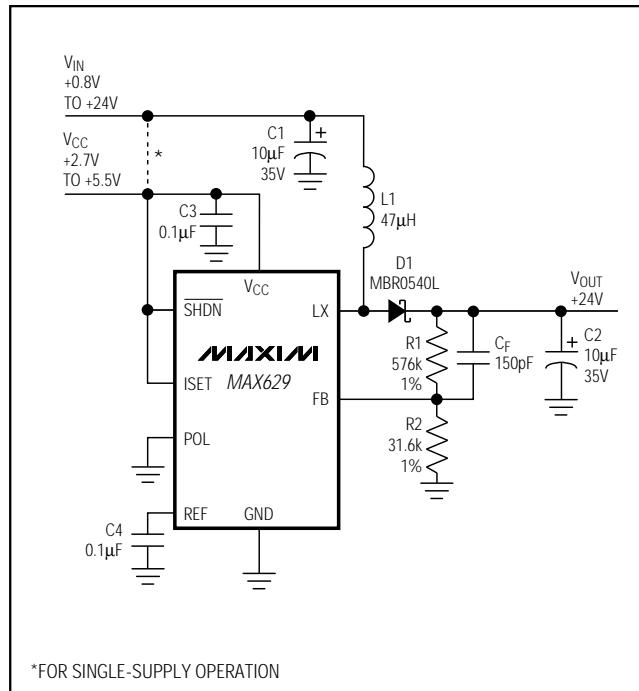
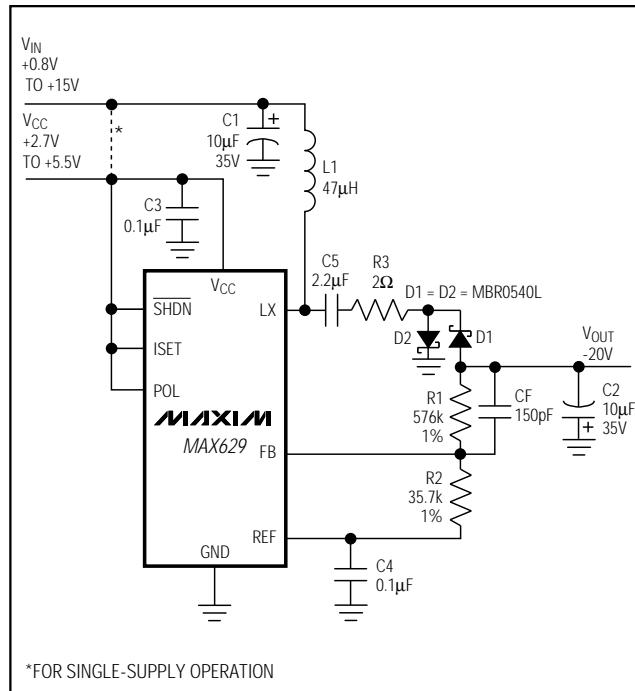

Figure 2. +24V for a Positive LCD Bias
Figure 3. -20V for a Negative LCD Bias
The output voltage behavior in shutdown mode depends on the output voltage polarity. In the positive output voltage configuration (Figure 2), the output is directly connected to the input through the diode (D1) and the inductor (L1). When the device is in shutdown mode, the output voltage falls to one diode drop below the input voltage, and any load connected to the output may still conduct current. In the negative output voltage configuration (Figure 3), there is no DC connection between the input and the output, and in shutdown mode the output is pulled to GND.
For either positive or negative output voltage applications, set the MAX629's output voltage using two external resistors, R1 and R2, as shown in Figures 2 and 3. Since the input bias current at FB has a 50nA maximum value, large resistors can be used in the feedback loop
For positive output voltages, use the typical boost configuration shown in Figure 2, connecting POL to GND. This sets the threshold voltage at FB to equal VREF. Choose the value of R2 and calculate R1 as follows:
For negative output voltages, configure R1 and R2 as shown in Figure 3, connecting POL to VCC. This sets
Figure 3 demonstrates generation of a negative output voltage by following the MAX629 with an inverting charge pump. This configuration limits $|V_{OUT}|$ to values between $-|V_{IN}|$ and $-28V$. If smaller negative output voltages are required, D2's cathode can be connected to V_{IN} . This alternative configuration permits output voltages smaller than $-|V_{IN}|$, but cannot be used for output voltages more negative than $-|28V - V_{IN}|$. It produces roughly one-half the output current as the standard configuration and is typically 5% less efficient.
Parallel a capacitor (CF) across R1 to compensate the feedback loop and ensure stability (Figures 2 and 3). Values up to 270pF are recommended for most applications. Choose the lowest capacitor value that ensures stability; high capacitance values may degrade line regulation.
In the negative configuration shown in Figure 3, the inverting charge pump injects current into L_X with each cycle. The amount of charge injected increases at higher V_{IN}, and may prematurely trip the internal current-